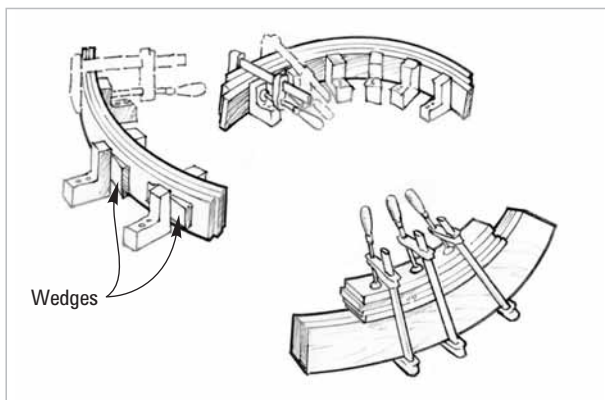

Figure 3-8 Transfer the desired stringer profile to a laminating jig.
A laminating jig will allow you to laminate a new frame in the controlled environment of your shop. Use cardboard or other convenient material to pattern the inside face of the panel at the stringer locations. Transfer the pattern line to a laminating jig of one the types illustrated (*Figure 3-8*). Laminate frames in a jig as follows:
4. Stack the coated strips in the jig. Clamp the strips in place using clamps (*Figures 3-8 and 3-9*), wedges, staples or small nails. Apply enough pressure to squeeze a small amount of epoxy from each joint. Clean up excess epoxy before it begins to cure. Leave clamps in place until the epoxy cures